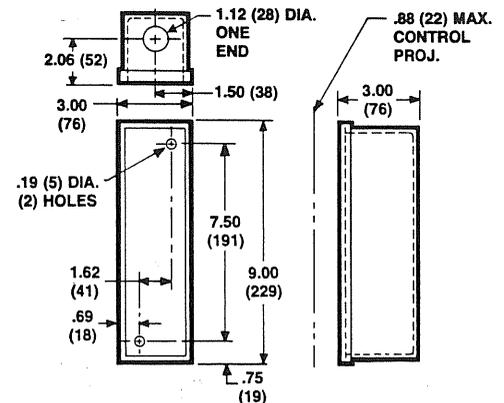

FIGURE 4. REMOTE CONTROL STATION DIMENSIONS
- Fincor's Series SCS160 standard operator control station can be wall-mounted using the two holes in the back of the enclosure. See figure 4 for mounting dimensions.